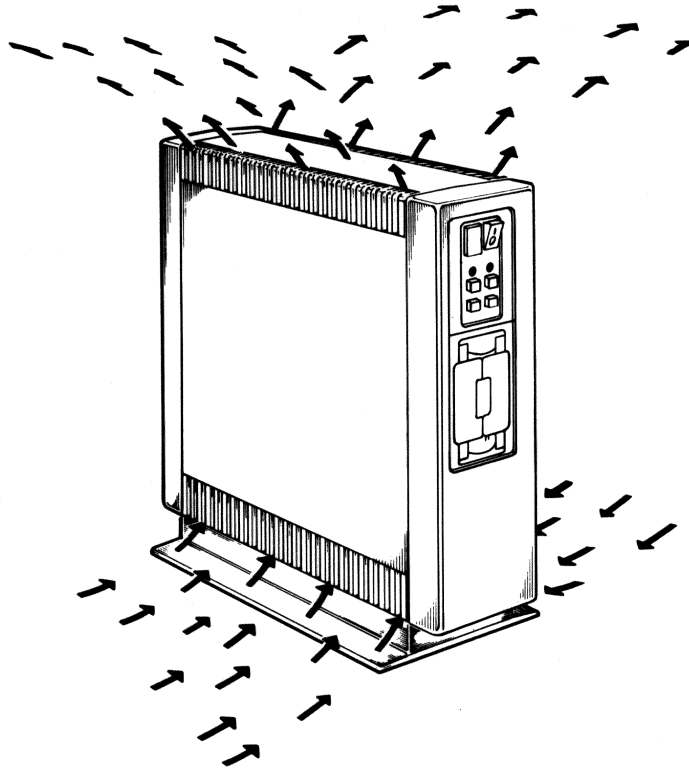

Figure 1-5 Airflow
1.3.1.1 Air Circulation - Two fans in the BA23-A frame draw air from the bottom of the enclosure. (Figure 1-5) One fan is above the control panel, the other above the power supply.